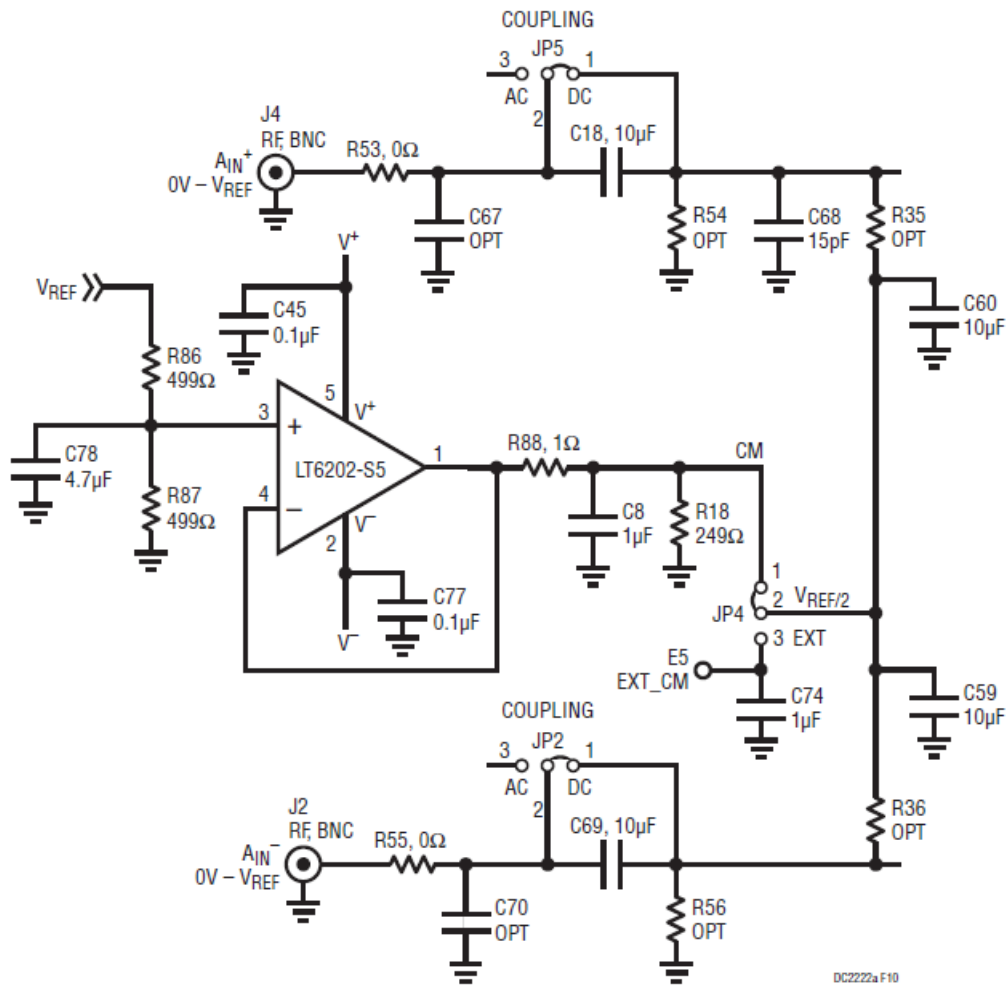

Figure 10. DC2222A Input Coupling
- JP4: CM sets the DC bias for AIN+ and AIN- if the inputs are AC coupled. To enable AC coupling, R35 and R36 (R = 1k) shown in the schematic of Figure 10 must be installed. Installing these resistors will degrade the